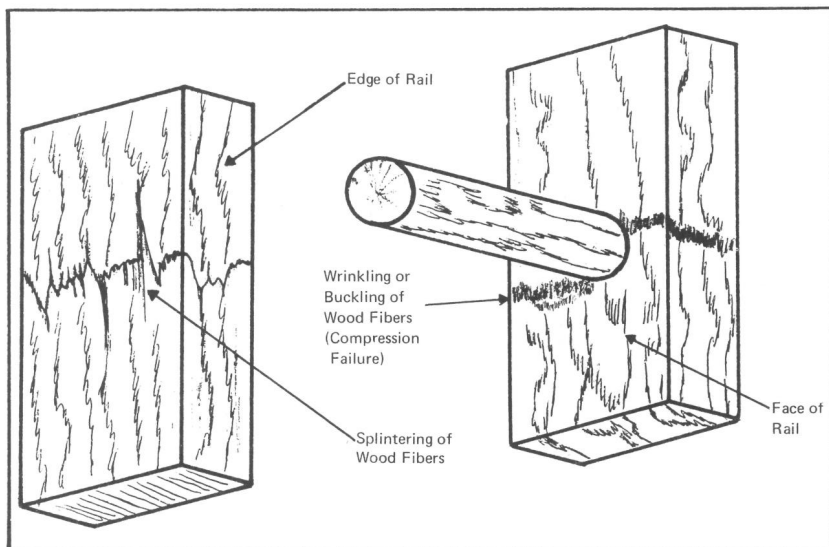

FIGURE 14.
7.01 Look for damage to the side rails which may appear as a fine crack, as a fold or crease in the wood fibers, or as a splintering of the wood fibers. Such defects are usually caused by overloading the ladder or subjecting it to a hard blow by dropping it or through some other accident and may subsequently result in failure of the ladder under normal load. Cracks or fine wrinkles (compression failure) in the wood fibers are most likely to occur at rung positions; a very careful inspection is usually required to detect them. In most instances the wrinkles or creases appear alone, but in some cases there may also be some splintering of the wood fibers in the opposite side of the rail. See Figure 14.